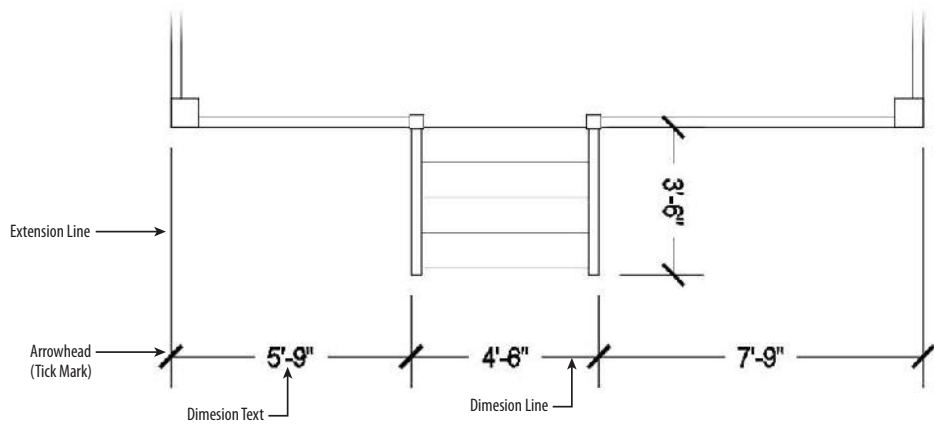

FIGURE 12.1: The parts of a dimension
- ▶ Dimension text (see Figure 12.1)